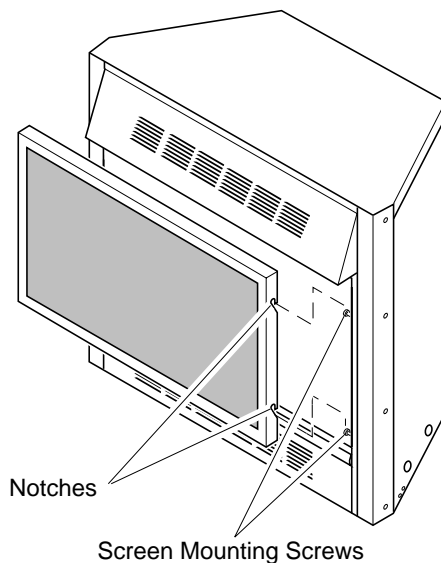

Figure 15 - Removing Fireplace Screen
1. Remove fireplace screen (see Figure 15).